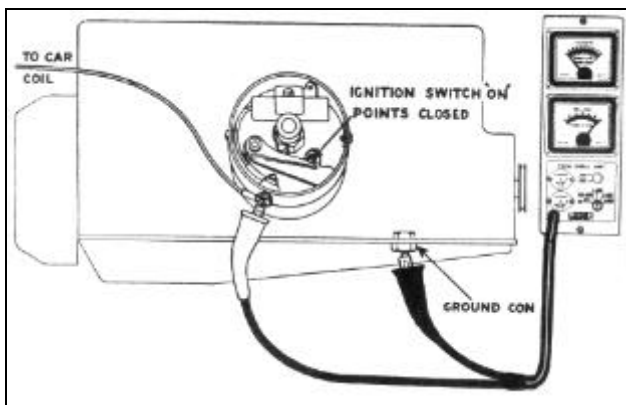

FIGURE 13
1. Using a Tach-Dwell unit, connect the negative lead to the distributor primary terminal and the positive lead to a ground, Figure 13.